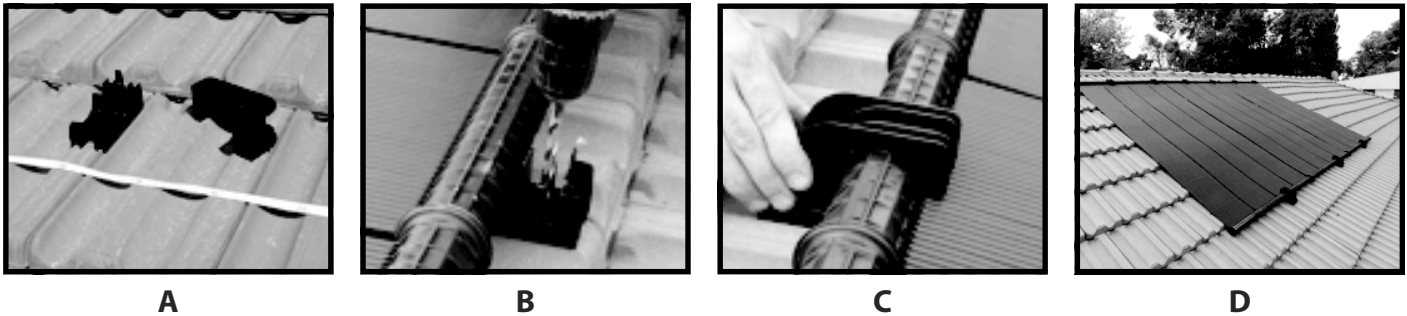

Fig. 8.4
5. Apply ample sealant to both the bottom and top of the lower hole on the bottom portion of the gator clamp. (Fig. 8.4-A). Position the bottom portion of the gator clamp perpendicular to the chalk line with the lower hole being placed right on the chalk line. Lag the gator to the roof through the lower hole using a 1/4” x 4” S.S lag bolt. (Fig. 8.4-B).
7. To ensure proper spacing, hang the top headers of panels in the bottom portion of the gators attached to the roof as you go. Once again, be sure gator clamps are at least 2” away from each ridge along the heading. (Fig. 8.4-D).
8. Once all gators are properly lagged to rack or roof surfaces, and all the collectors are hung in place, connect the top headers of each collector using (2-1810-004) plastic panel clamps. Snap the top portion of each gator clamp over the panel header onto the bottom portion of each gator clamp by pushing down firmly. (Fig. 8.4-C).
9. Install (2) SS Screws (2-1020-006) to secure gator top to gator bottom assembly.
11. Locate and mount the (1) long gator clamp (2-1060-001) along the bottom header of each panel. The bottom gator should be installed allowing a large gap for contraction of the collectors.